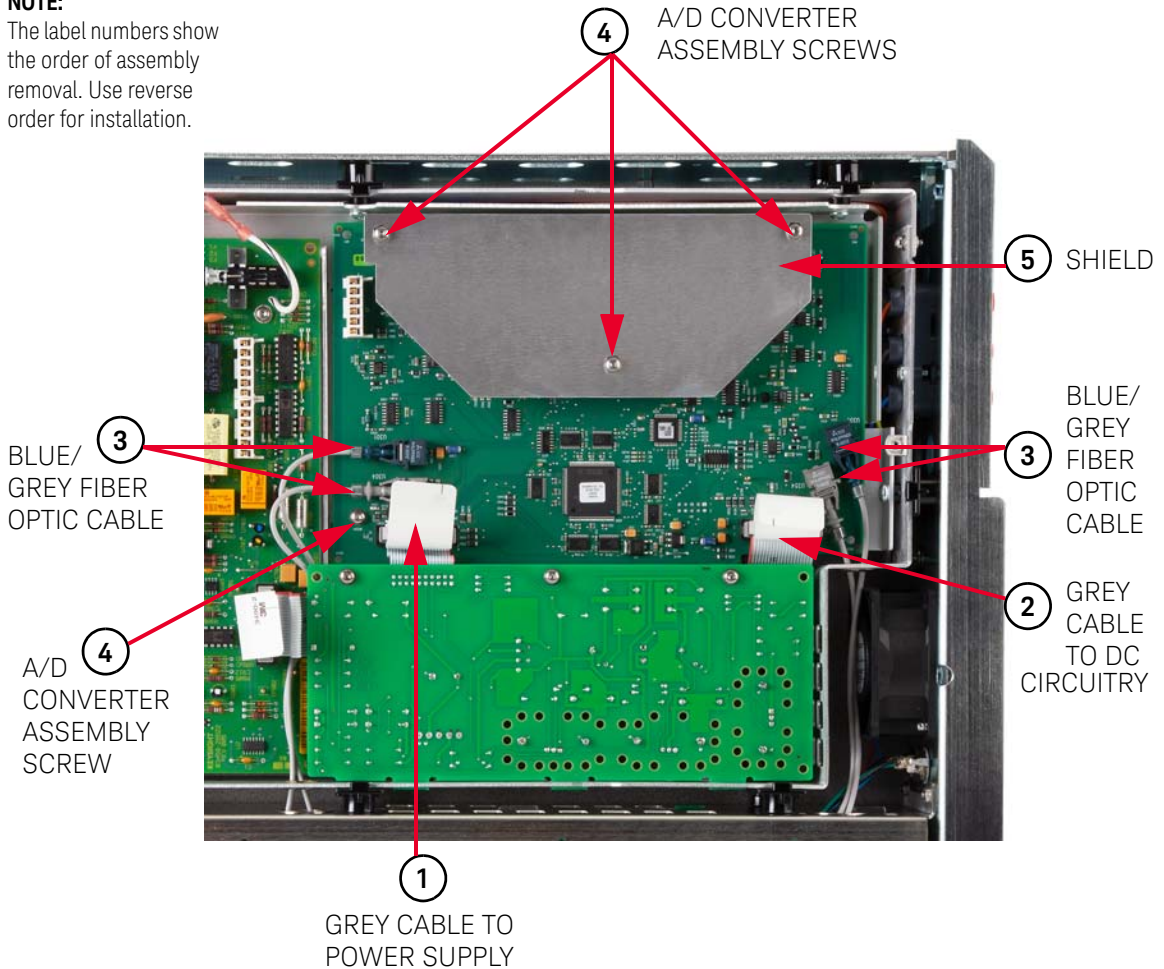
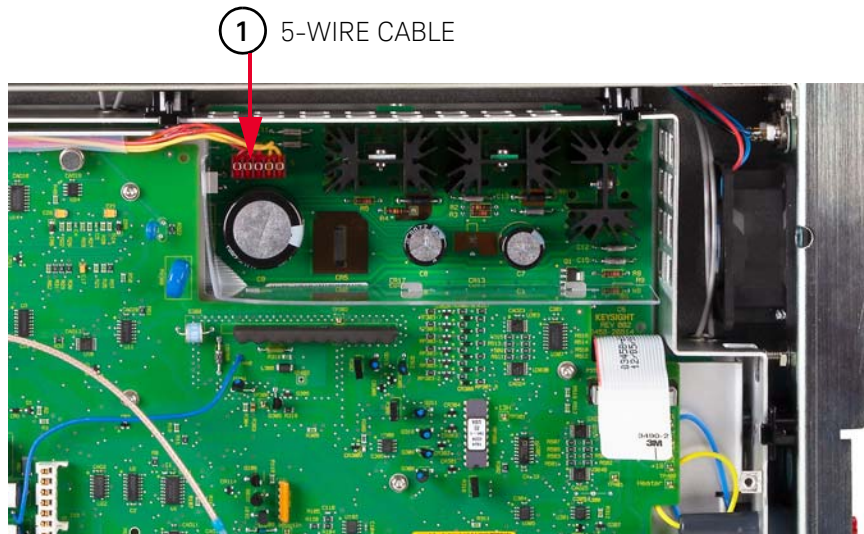

Figure 3-11 A/D converter and guard logic assembly
Figure 3-12 Remove/Install transformer cable on inguard power supply
Refer to Figure 3-11 for the following procedures.
The label numbers in Figure 3-11 and Figure 3-12 show the order assembly removal. Use reverse order for installation.
- 3 Refer to Figure 3-12. Unplug the 5-wire cable from the Inguard Power Supply assembly. This cable is connected to the power transformer.
- 7 Refer to Figure 3-12. Locate the cable connected to the power transformer. Line up the cable plug with the socket on the Inguard Power Supply assembly. Then plug the cable in.